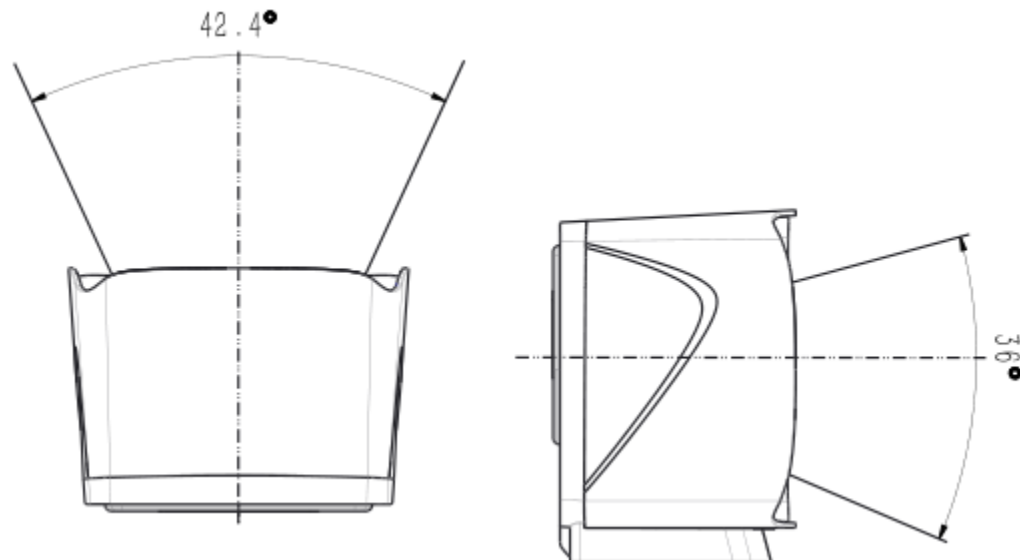

Figure 4-1 Field of View
2. Place the barcode in the field of view as shown in Figure 4-1 and aim it at the scan window. The illumination LED will be activated, the red illumination area will appear and the decoding process will begin.